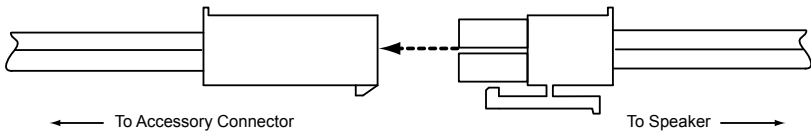

Figure 3 - Speaker Wire Connection
5. Connect the speakers to the accessory connector. (See figure 3)